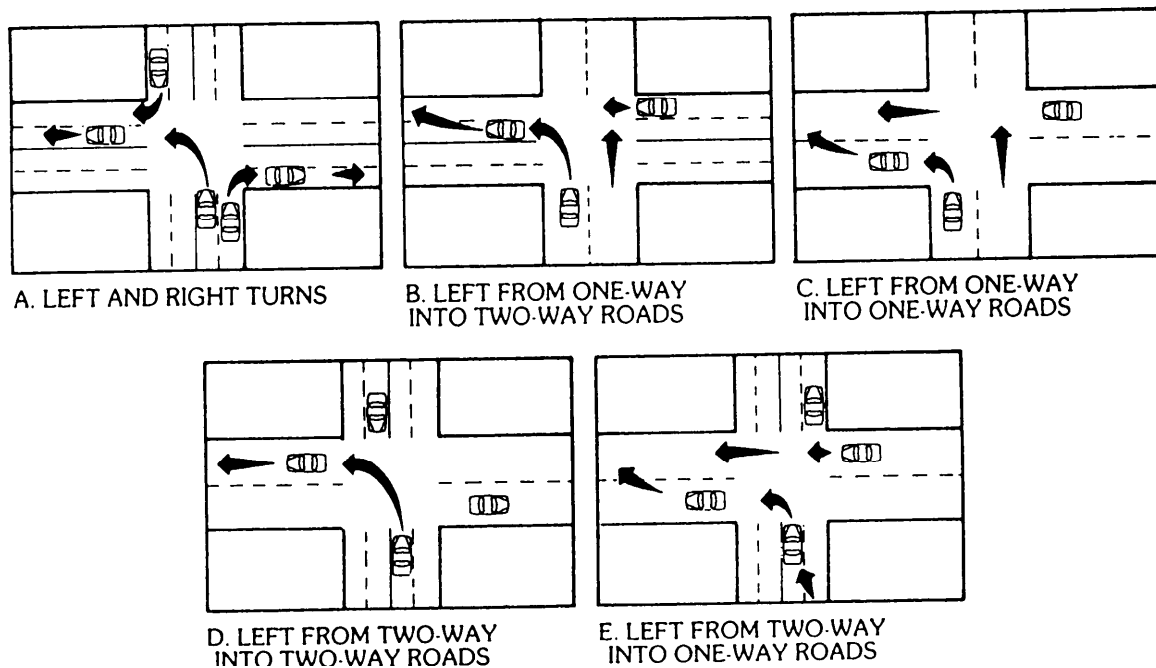

Figure 5-2.—Proper turning.
7. Finish your turn in the proper lane. (See fig. 5-2.)